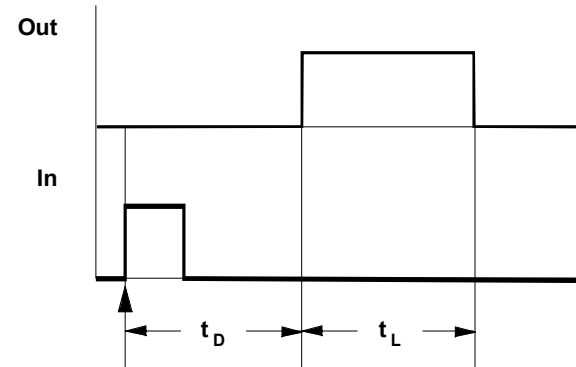

Fig. 1: How the A-162 delays and lengthens a pulse
This control sets the **trigger delay time** t_D (see Fig. 1) in a range from zero to ten seconds.
② Len.
This control ② sets the length t_L of the trigger pulse (see Fig. 1) in a range from zero to ten seconds.
③ LED